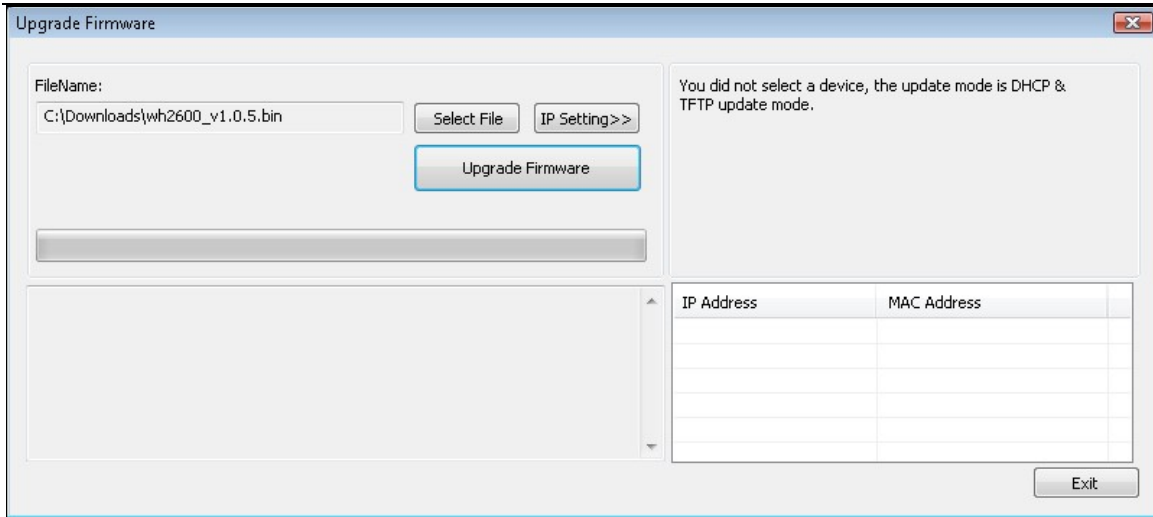
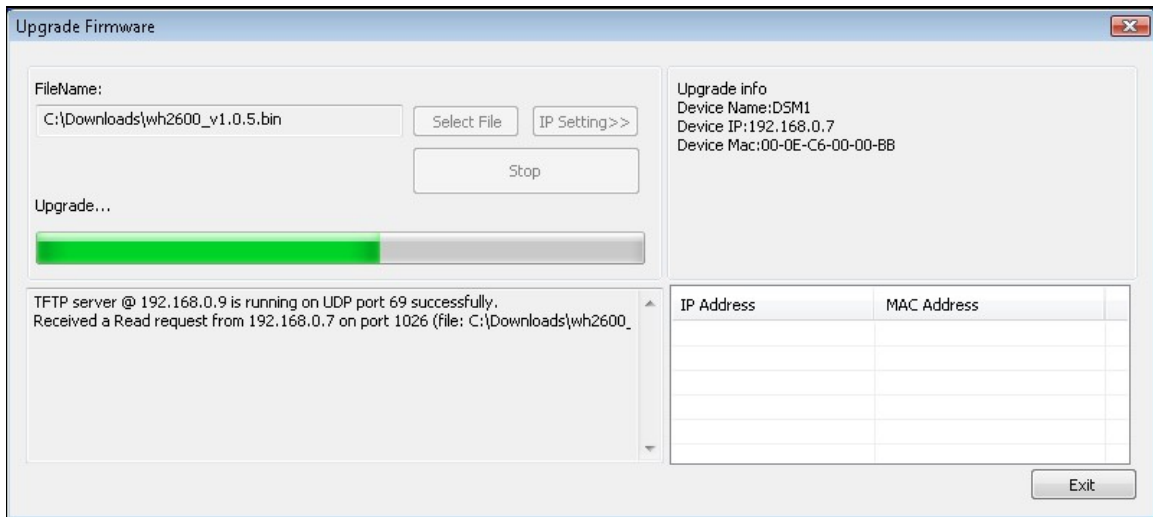
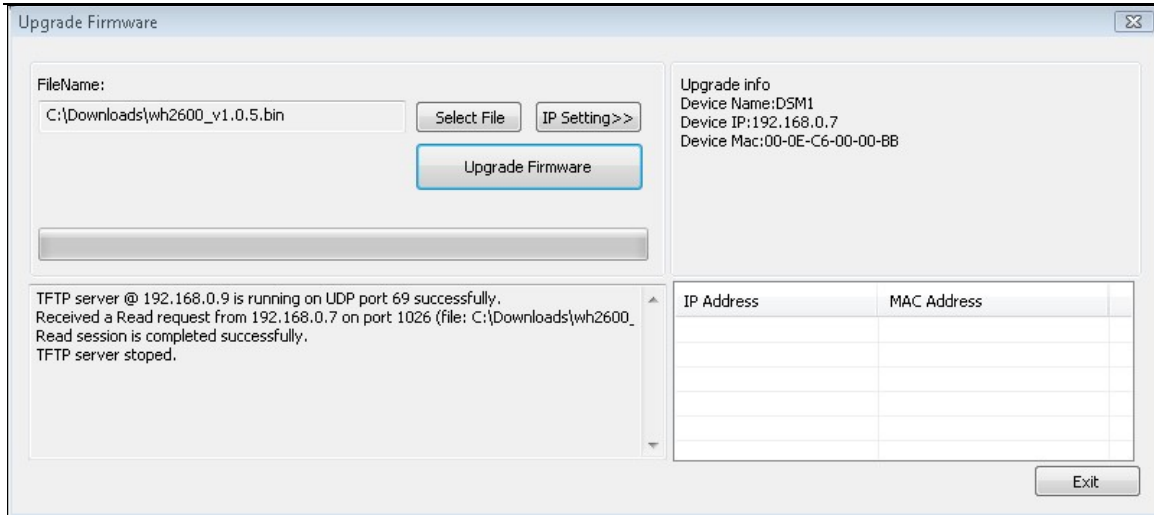

Figure 38
Figure 39
Figure 40
4. Reference Figure 38. Select the **Select File** button, and browse to the location of the file you downloaded in Step 1.
5. Select the **Upgrade Firmware** button. Reference Figure 39. The dialog box will display **Received a Read Request** from the ObserverIP module. A green progress bar will provide you with the upgrade status.
6. Once the firmware upgrade is complete, the dialog box will display **Read session is completed successfully**, as shown in Figure 40.
<p>Only the Power, Link and ACT lights are lit and the ObserverIP module does not communicate to the server.</p>	<p>The firmware will need to be reloaded.</p> <ol style="list-style-type: none"> 1. Download the latest firmware here: http://www.AmbientWeather.com/observerip.html 2. Power down the ObserverIP module but leave connected to your router. 3. Launch the IP Tools application as referenced in Section 3.9. Since the module is powered down, you will not be able to locate it on your network, but proceed anyway. 4. Select the Upgrade button. 5. Reference Figure 38. Select the Select File button, and browse to the location of the file you downloaded in Step 1. 6. Select the Upgrade Firmware button. 7. Plug in the ObserverIP module. The software will locate the device on your network and begin the update. Reference Figure 39. The dialog box will display Received a Read Request from the ObserverIP module. A green progress bar will provide you with the upgrade status. DO NOT OPERATE THE MOUSE OR KEYBOARD WHEN UPGRADING to prevent interruption of the upgrade. 8. Once the firmware upgrade is complete, the dialog box will display Read session is completed successfully, as shown in Figure 40. 9. Wait about one minute for the ObserverIP module to reboot. You can now Exit the upgrade window, and access the module again, as referenced in Section 3.9. All of the lights should be on except the Server light (you will need to reprogram the Wunderground.com settings).